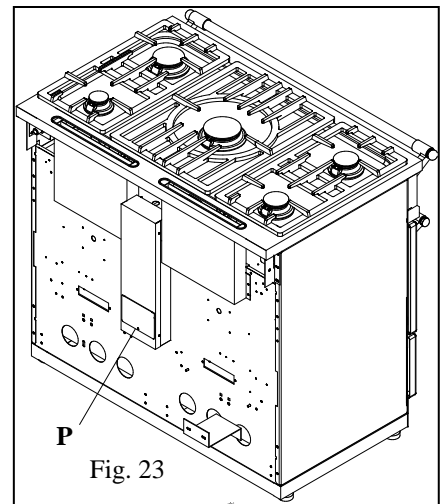

Fig. 23
- Remove access door **P** (Figure.23 - all gas oven range) or **R** (Figure 25, gas & electric oven range).